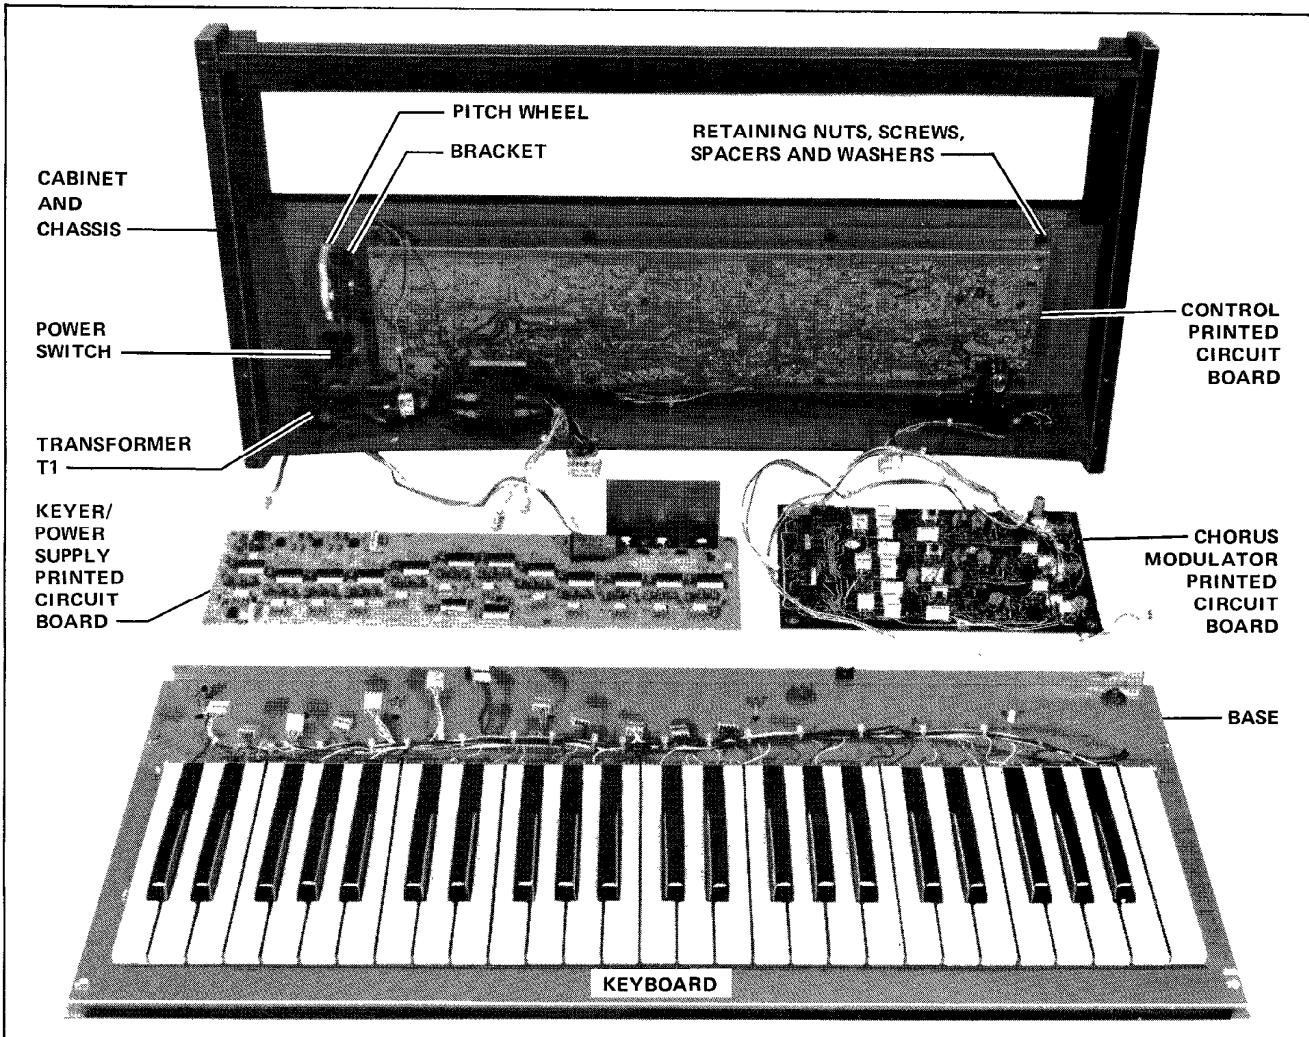

FIGURE 3-2 OPUS 3 WITH BASE REMOVED, KEYER/POWER SUPPLY AND CHORUS MODULATOR PRINTED CIRCUIT BOARDS REMOVED AND CONTROL PRINTED CIRCUIT BOARD INSTALLED
3.1.2 PITCH ASSEMBLY REMOVAL (Figure 3-2)